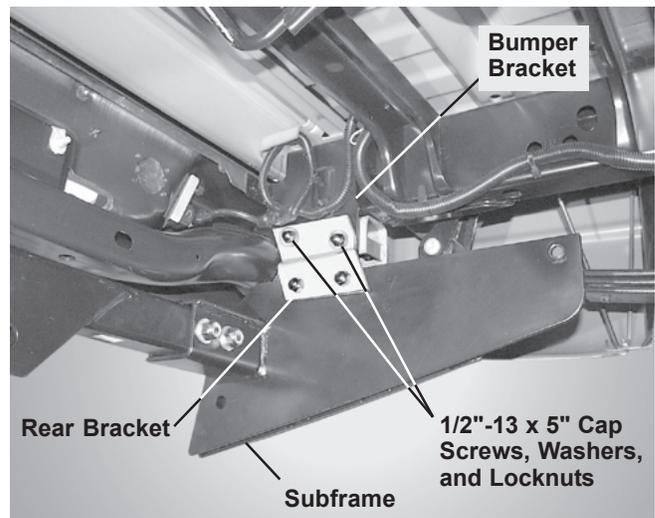

Figure 5
3. Position the assembled subframe under the truck with rear brackets against inside surface of bumper brackets. Install two 1/2"-13 x 5" cap screws with 1/2" flat washers per side (four total) through bumper bracket, support bracket, and rear bracket and secure with 1/2" flat washers and 1/2"-13 locknuts. (See Figure 5.)